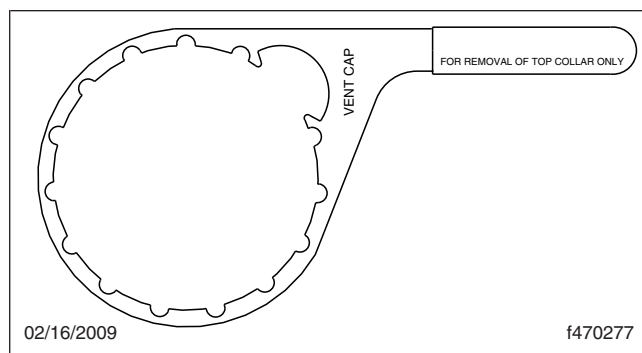

Fig. 3, DAVCO Collar Wrench
5. Using a DAVCO Collar Wrench (**Fig. 3**), remove the clear cover and collar.